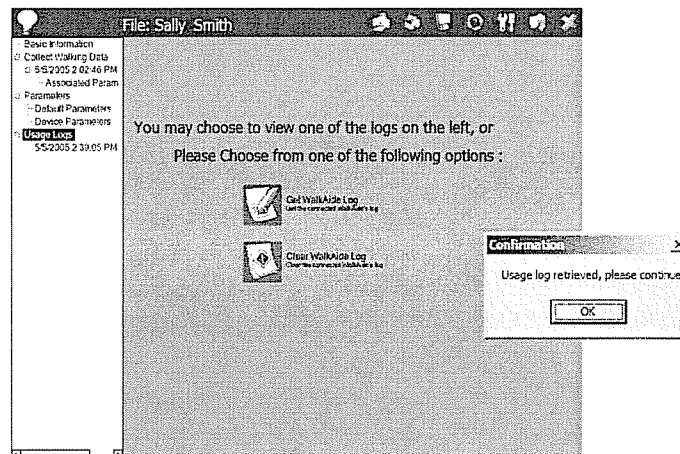

Figure 31 – Get WalkAide Log.
1. Click on 'Usage Logs' listed on the left side of the screen (Figure 31). Click on the 'Get WalkAide Log' icon to retrieve the information and then click 'OK' once the information has been retrieved.